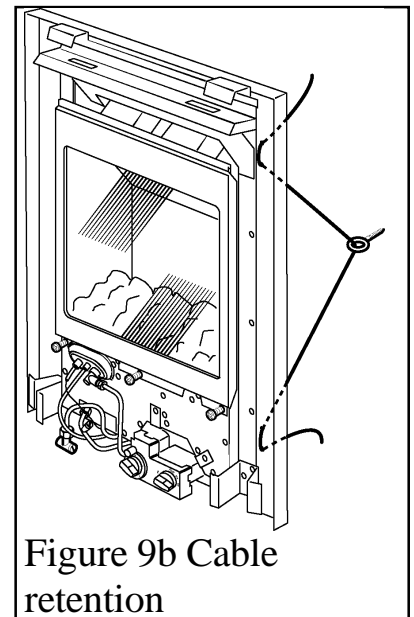

Figure 9b Cable retention
- Thread the two tension cables through the appliance case side holes as shown in figure 9b.
- Cable retention: Fit the eyebolts onto the cables. Thread the cables through the appliance case sides as shown in figure 9b. Offer the fire complete with flue unit through the wall. Pull the cables taut.